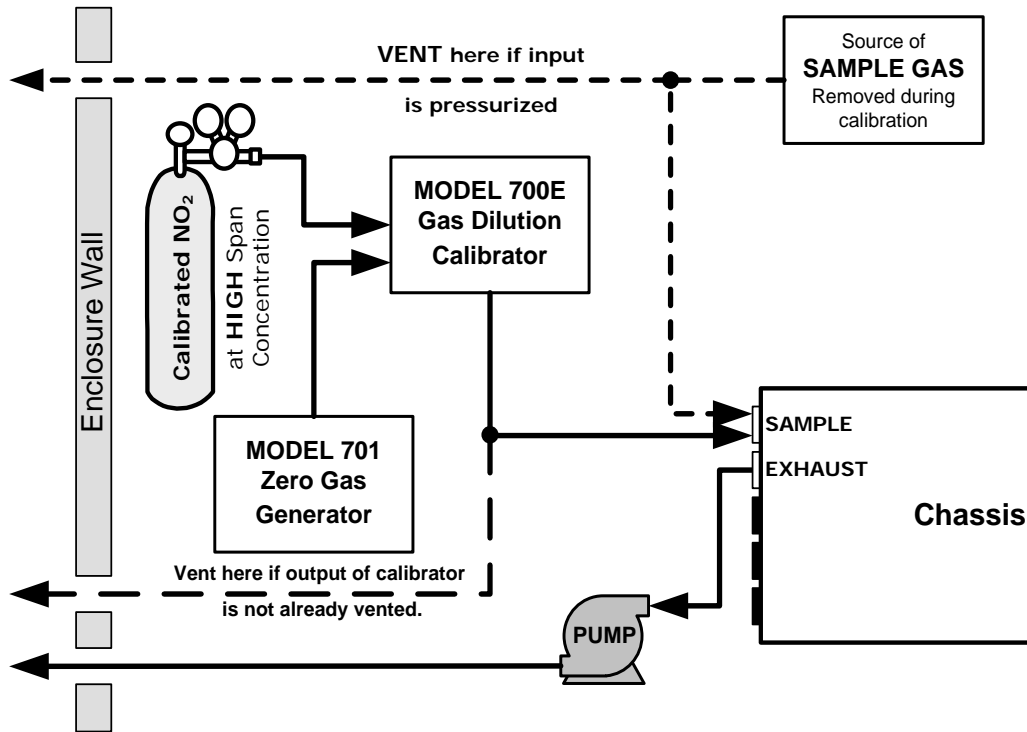

Figure 4-4. Setup for Determining Conversion Efficiency
1. Make the pneumatic connections as shown in Figure 4-4.